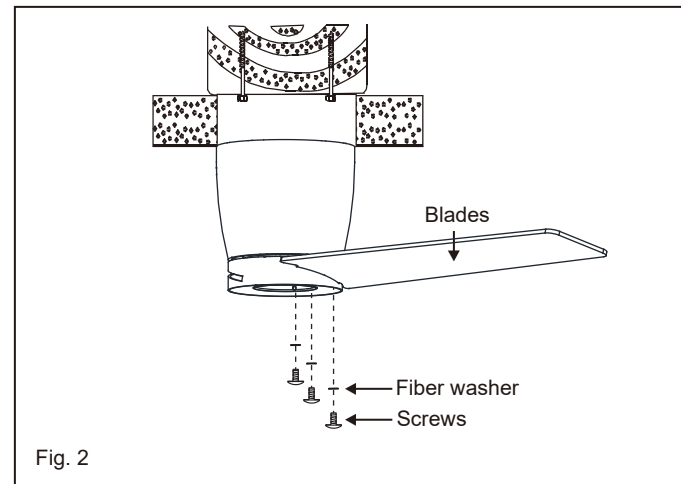

Fig. 2
- 3 Fasten blade to motor with provided blade screws. Repeat procedure for remaining blades. Make sure screws are TIGHT! Loose motor screws can contribute to unnecessary hum during operation. (Fig.2)